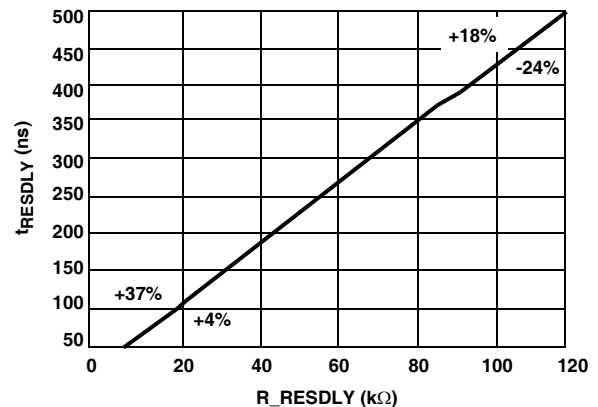

FIGURE 7. R_RESPLY vs RESPLY
- Figure 7 illustrates the relationship of the value of the resistor (R_{RESPLY}) and the resonant delay (t_{RESPLY}). The percentages in the figure are the tolerances at the two end points of the curve.